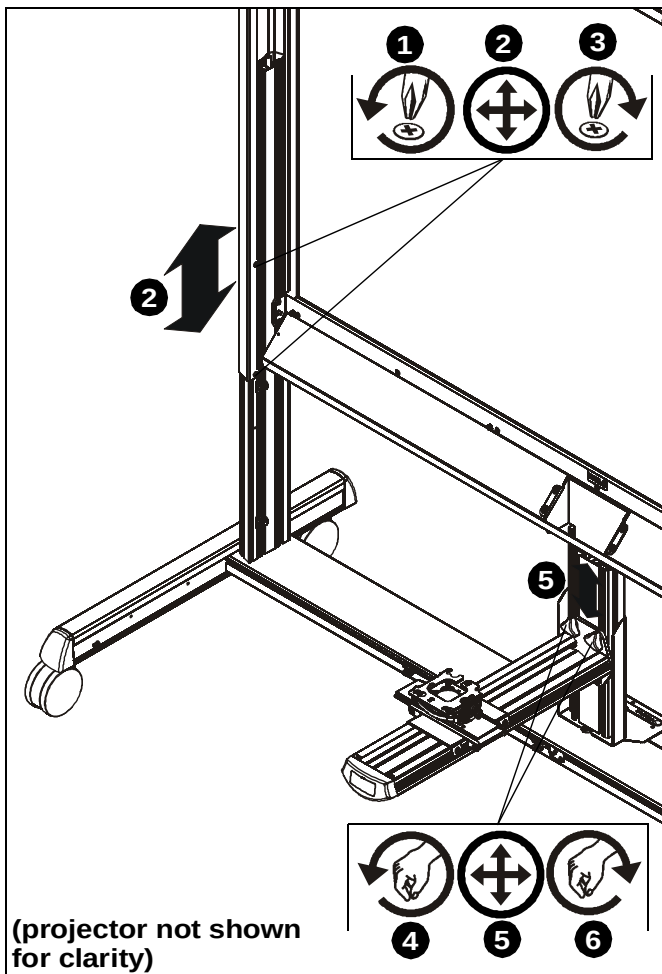

Figure 15
1. Remove two screws connecting column extenders (J and K) to each side column (H). (See Figure 15)
2. Adjust height of screen to desired height and line up holes on column extenders with holes on side columns. (See Figure 15)
3. Use two removed screws to reattach each column extender to each side column at desired height. (See Figure 15)
4. Loosen two knobs (R) securing projector boom arm to height-adjust beam. (See Figure 15)
5. Adjust boom arm height to desired height. (See Figure 15)
6. Tighten two knobs (R) to secure arm at desired position. (See Figure 15)